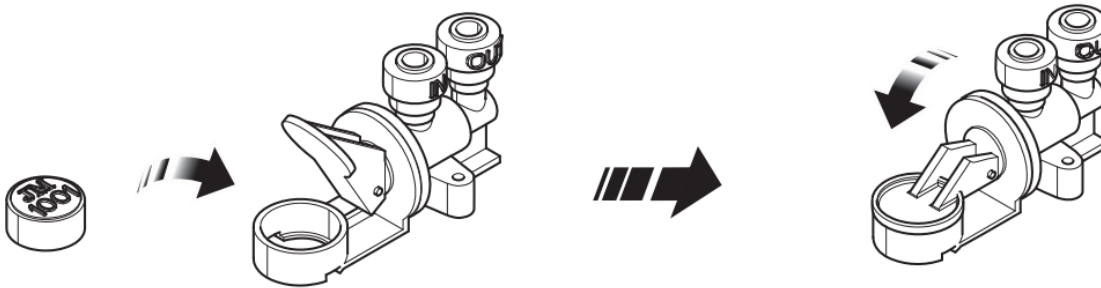

Fig 36
4. Close the arm of the valve on top of the newly fitted valve (Fig 36).